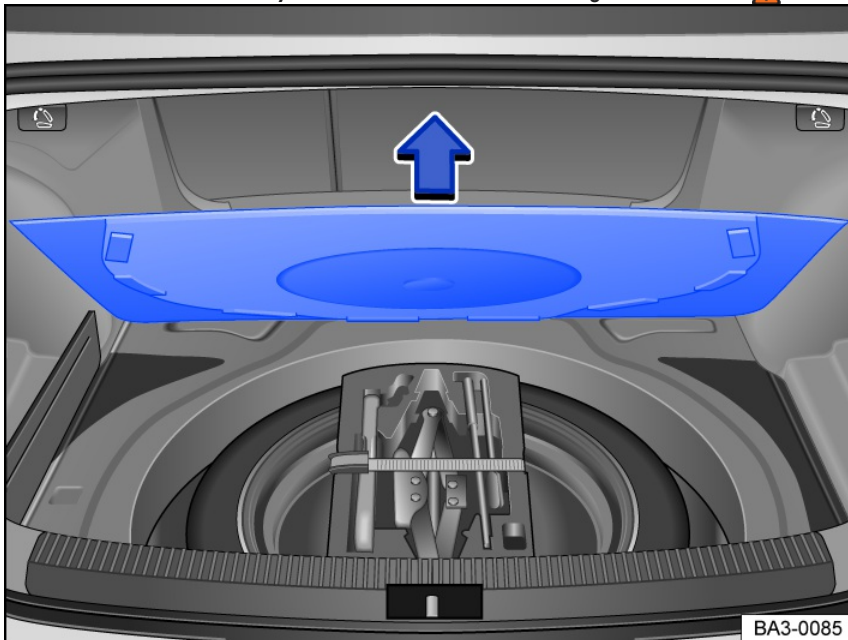

Fig. 131 In the luggage compartment under the luggage compartment floor: tool box.
- Lift the floor covering in the direction of the arrow fig. 131 and remove, if necessary.